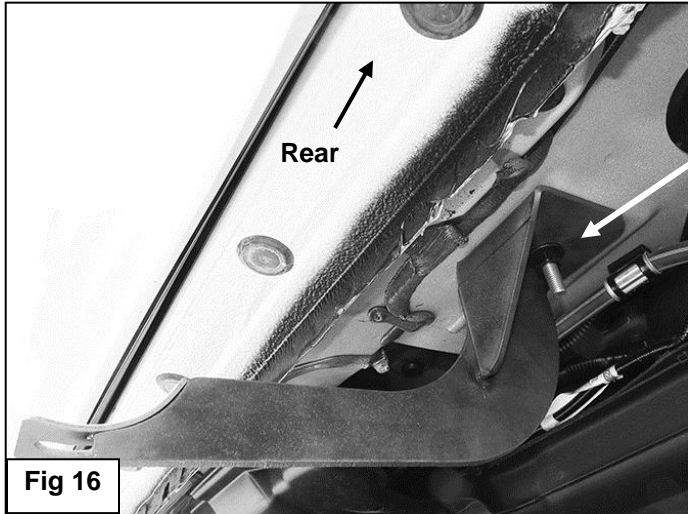

Fig 16
10. Select the driver side rear Mounting Bracket, **(Figure 15)**. Attach the rear Bracket to the T-Bolt with the included (1) 10mm Flat Washer, (1) 10mm Lock Washer and (1) 10mm Hex Nut, **(Figure 16)**. Do not tighten hardware at this time.